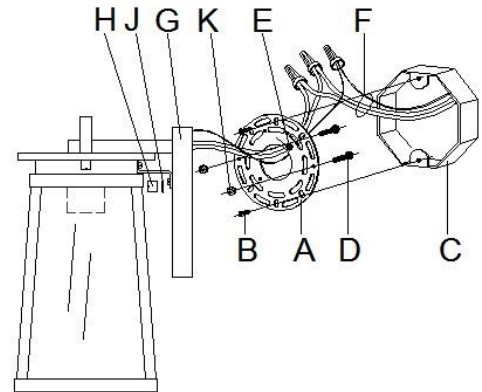

Fig.2
CONNECTING THE WIRES (Fig. 2)
4. Connect the electrical wires as shown in Fig.2. Make sure that all wire connectors are secured. If your outlet box (C) has a ground wire (green or bare copper), connect fixture's ground wire to it. Otherwise, connect fixture's ground wire directly to mounting plate (A) using green screw (E) provided.
5. Tuck the wire connectors neatly into outlet box (C).